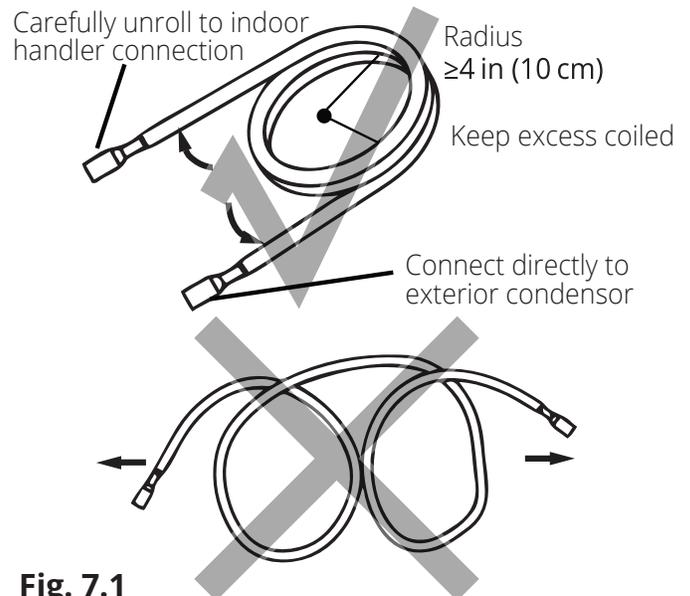

Fig. 7.1
1. Use your hands to slowly unwind the copper piping of one end of the Quick Connect® Line Set. The end you unwind will connect to the indoor unit piping. You should unwind the end until the connectors are close to flat on the ground (with little to no bend). If this is not done, it could make the line set difficult to maneuver when aligning the connectors with the air handler piping. Only unwind as much as necessary for your application, and allow any excess to remain coiled (Refer to Fig. 7.1).
When bending connective refrigerant piping, it needs to have a minimum bend radius of 4 inches (Refer to Fig 7.1).